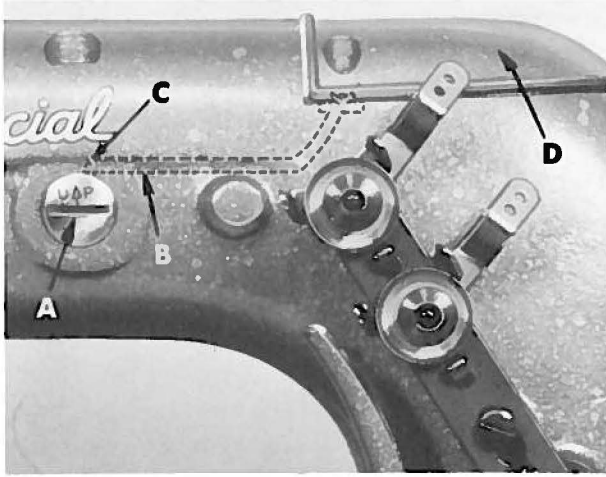
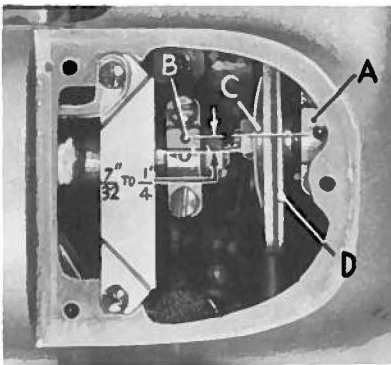

Fig. 1
Fig. 2
Observe location of needle lever stud (A, Fig. 1). The head of the needle lever stud is marked with an arrow and the word "UP". These studs are set correctly when arrow points vertically up. Also check the position of the needle lever bearing oiler (B) inside the arm casting, which lubricates the needle lever stud. Make sure it is tilted downwardly and that its delivery end (C) contacts the inside wall of the bed casting at the back, just above the notch of the needle lever shaft stop collar.
Before making any adjustment, remove top crank chamber cover (D, Fig. 1) and check to see that both ends of spacing washer (C, Fig. 2) are seated in the slot of rocker shaft lever (D). If the spacing washer is seated properly, this will locate the centerline of the upper needle feed connecting rod ball joint (A, Fig. 2), $\frac{7}{32}$ to $\frac{1}{4}$ inch in back of the centerline of the needle lever connecting rod assembly (B).
NOTE: When spacing washer (C, Fig. 2) is properly seated, this will prevent the upper needle feed connecting rod ball joint from moving and also set it properly.